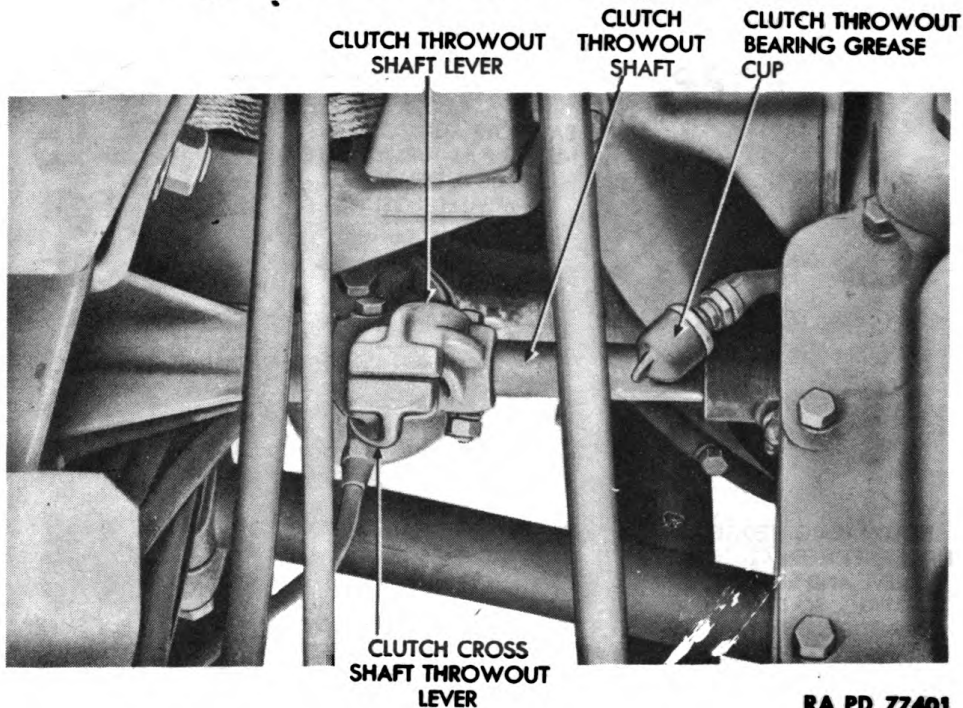

Figure 33 — Clutch Cross Shaft Lever and Throw-out Shaft
(5) **DISCONNECT CLUTCH CROSS SHAFT THROW-OUT LEVER FROM CLUTCH CROSS SHAFT** (fig. 33). Remove nut, lock washer, and clamp bolt which secure lever to shaft. Remove lever and tap Woodruff key from shaft.
(2) **INSTALL CLUTCH CROSS SHAFT THROW-OUT LEVER** (fig. 33). Tap Woodruff key on shaft. Position lever on shaft. Secure with nut, lock washer, and clamp bolt.